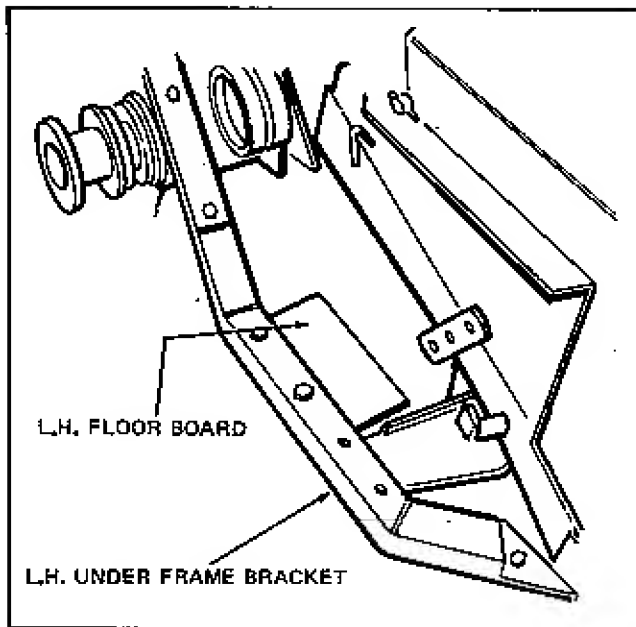

Figure 5.
6. Install left and right floor boards using the  $1/2 \times 2-3/4$ " capscrows from shipping and the spacers provided. See Figure 5.